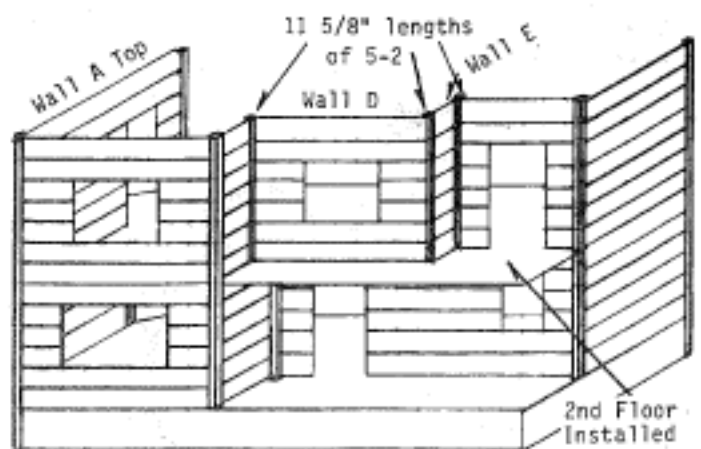

Figure 13
1. Assemble walls A Top, D and E as in Figure 13.